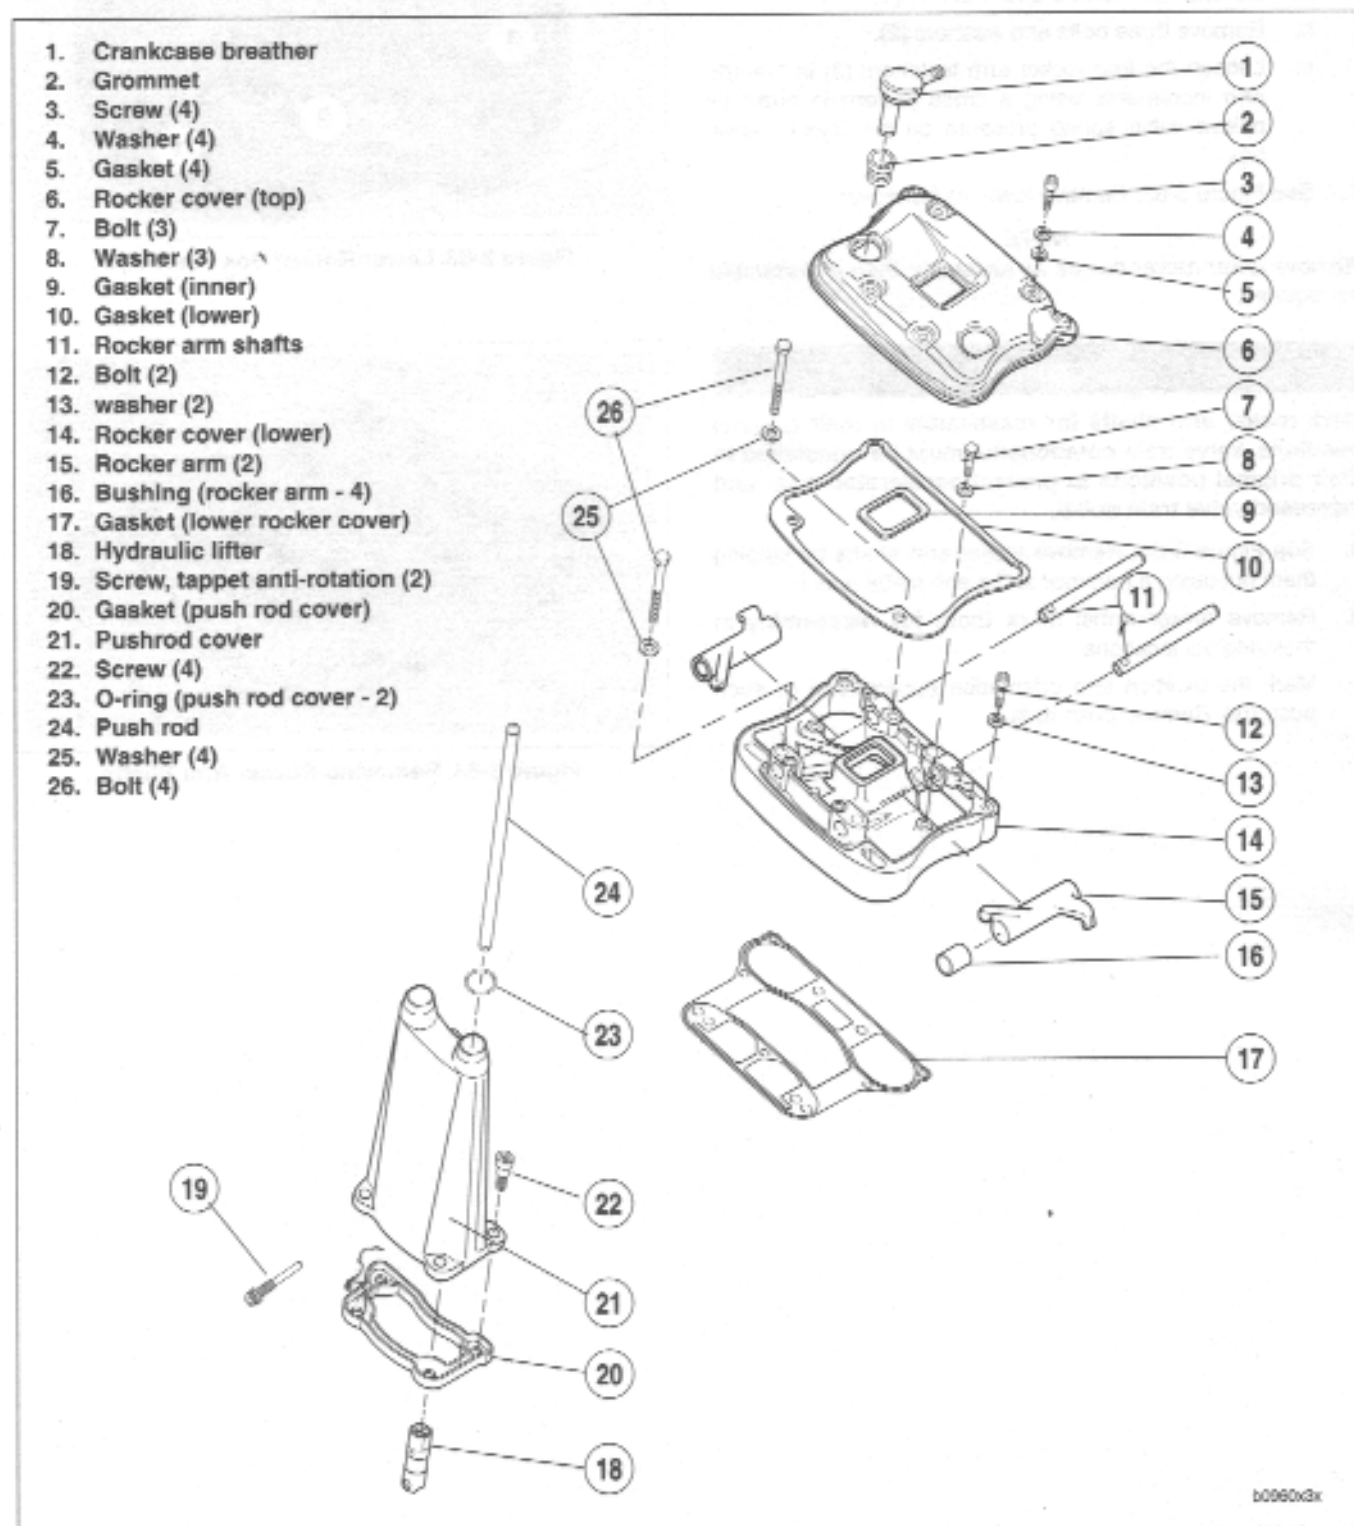
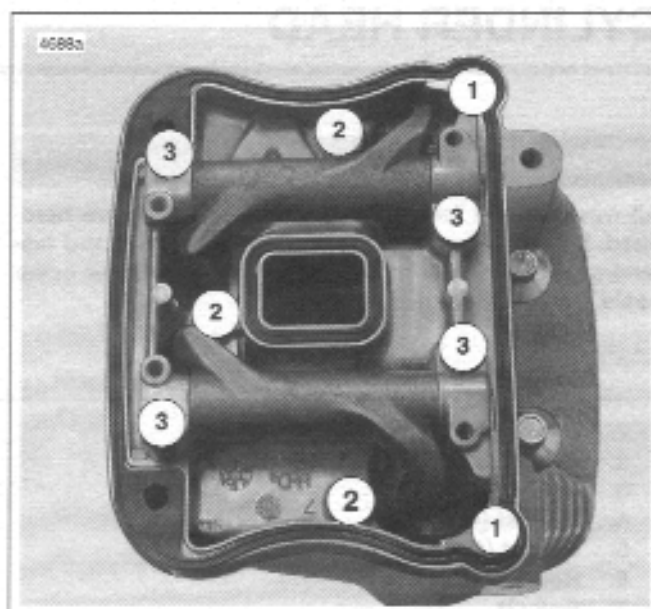

Figure 3-62. Rocker Arm and Pushrod Cover Assemblies
Figure 3-63. Lower Rocker Box Fasteners
2. See Figure 3-62. Remove screws with washers and fiber cover seals. Discard fiber seals.
6. See Figure 3-63. Remove hardware holding lower rocker cover to cylinder head in the following order.
- a. Remove two screws and washers (1).
- b. Remove three bolts and washers (2).
- c. Loosen the four rocker arm fasteners (3) in 1/4-1/2 turn increments using a cross pattern in order to relieve valve spring pressure on the lower rocker box.
7. See Figure 3-62. Remove lower rocker cover.
13. See Figure 3-62. Remove push rod cover, gasket and valve tappets.